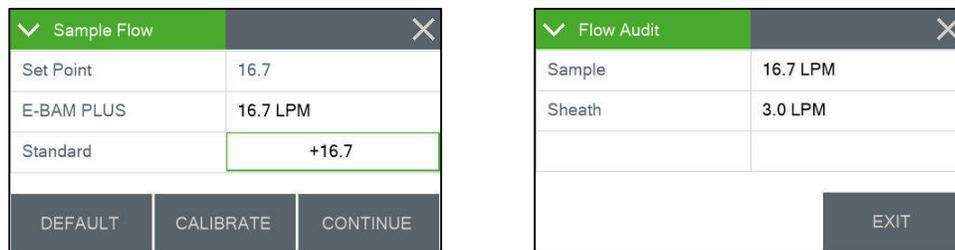

Figure 6-15 Main Sample Air Calibration and Final Review Screens
To audit the flow system without performing any calibrations, use the CONTINUE button to advance through the various screens explained below and view the parameters without making any changes. For the flow, skip to the final review display (see Figure 6-15). Allow the E-BAM PLUS time to stabilize the flow rate, then compare the E-BAM PLUS flow readings to your traceable standard and record the results. If the audit device flow and the E-BAM PLUS flow differ by 4% (about 0.67 lpm) or more, then a full flow calibration must be performed. Most agencies adopt tighter standards and Met One Instruments recommends that the flow be maintained within ± 0.2 lpm.
25. Press the grey CONTINUE key to proceed to the sample air flow calibration (see Figure 6-15).
29. Press the CONTINUE key to continue on to the flow review screen shown in Figure 6-15. The final screen shows the current measured values for the sample (INLET) and sheath air flows.